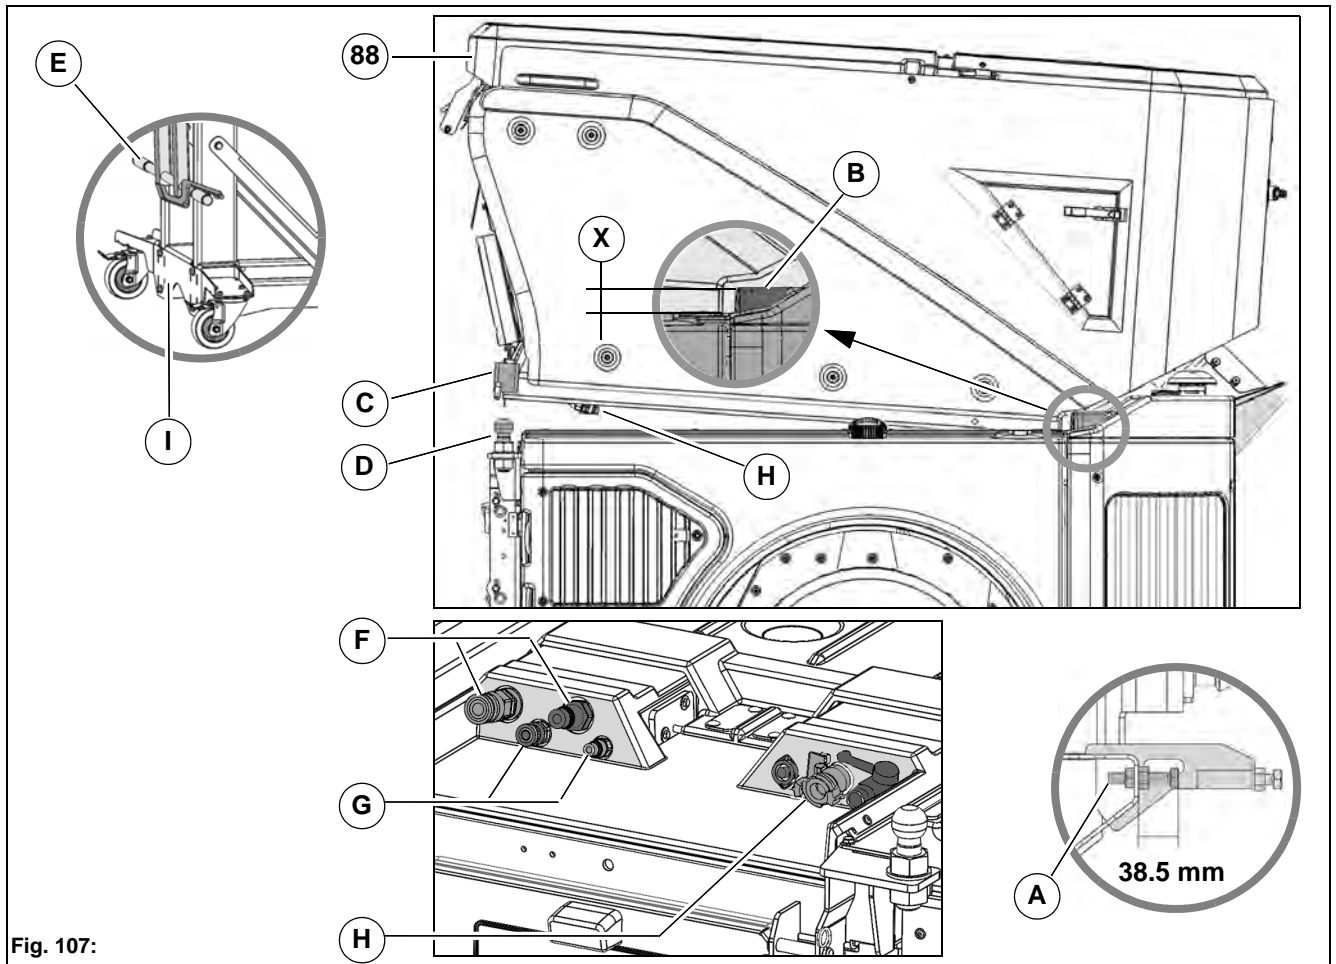

Fig. 107:
- Position the dirt hopper over the rear wagon and check the gap size **Fig. 107-X** with 5-10 mm. If necessary, correct with the screw **Fig. 107-A**.
- Push the rollers of the dirt hopper up into the pockets **Fig. 107-B**.
- The fixed bearings **Fig. 107-C** of the dirt hopper and the holders **Fig. 107-D** of the rear wagon must be in alignment.
10. Unlock the lever **Fig. 107-E** of the trolley **Fig. 107-I** (optional) and swing it into the upper position. Let the dirt hopper down slowly! Withdraw the trolley and close the lid.
- Lift system hydraulic cylinder – supply/return = **Fig. 107-F**
- Suction fan hydraulic motor – supply/return = **Fig. 107-G**
- Circulating water = **Fig. 107-H**